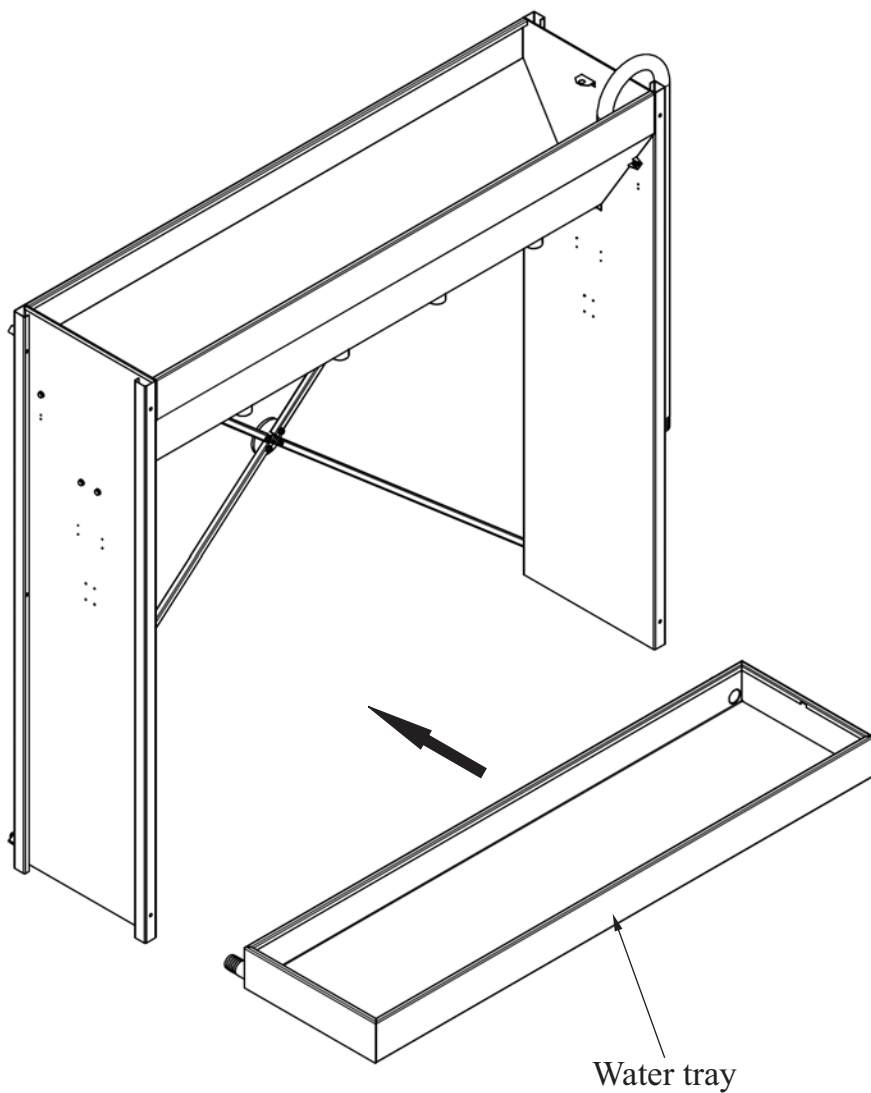

Figure 4
Step 4: Slide the water tray into the dehydrator (Figure 4)